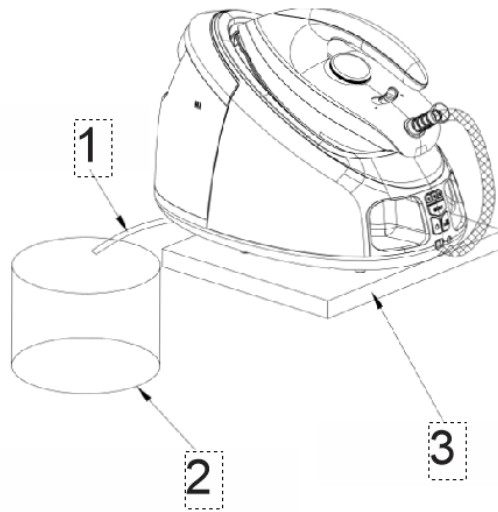

Fig.4
3. Put the unit base on a suitable and fixed table, then put the silicone tube into a container, after it, fill the water tank with water and replace it back in position (see Fig.4). Make sure that the appliance shall be placed steadily.